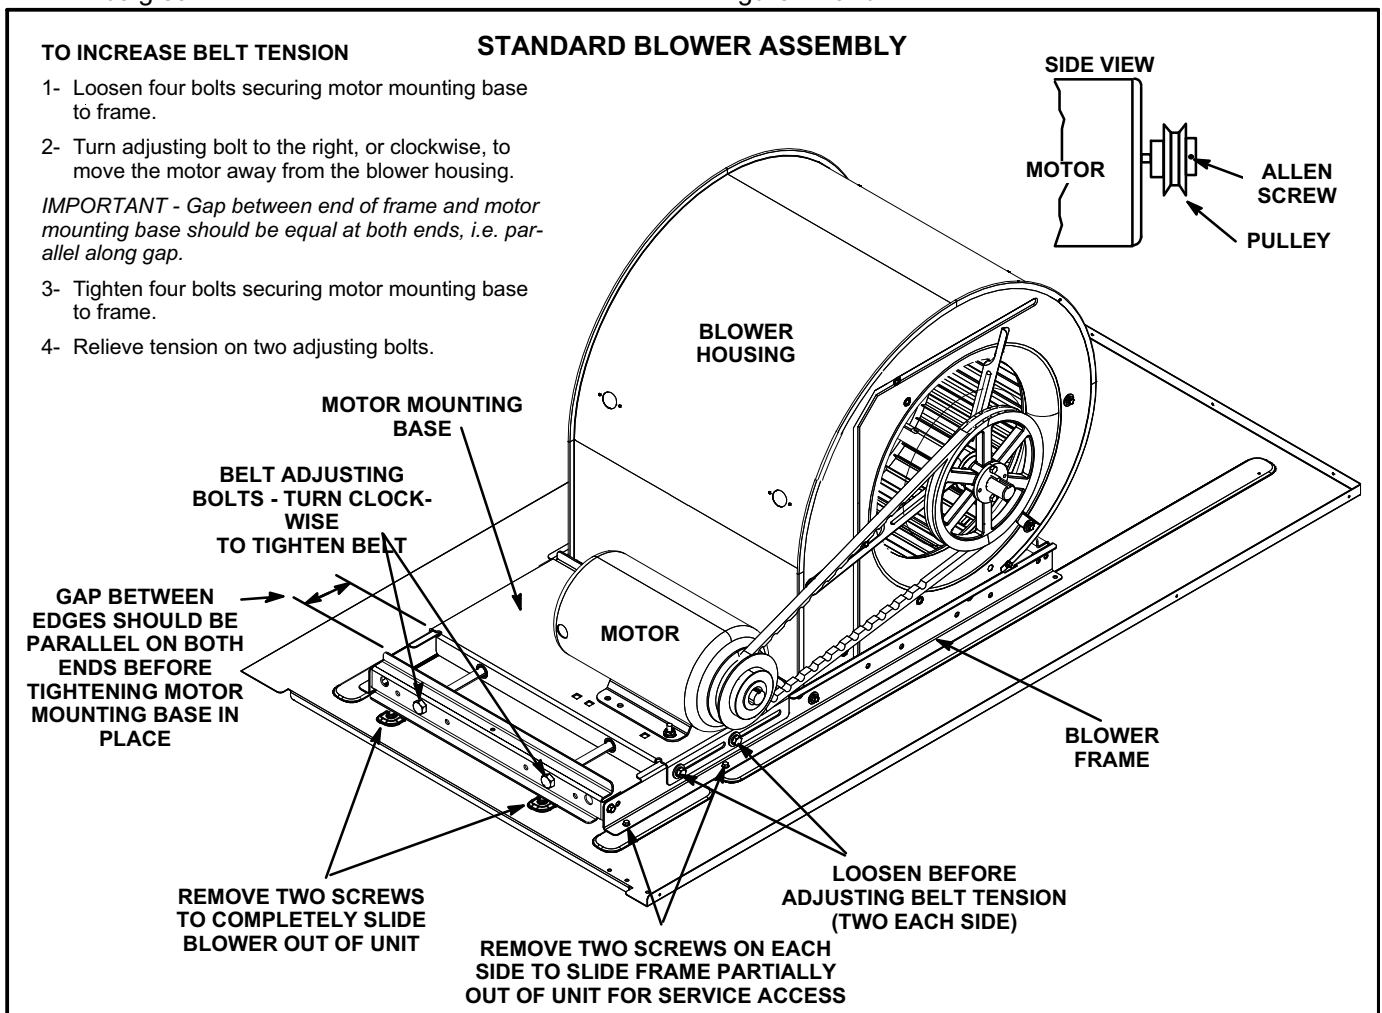

FIGURE 11
The blower assembly is secured to a sliding frame which allows the blower motor to be pulled out of the unit. See figure 11 and 12.
- 4- The blower RPM can be adjusted at the motor pulley. Loosen Allen screw and turn adjustable pulley clockwise to increase CFM. Turn counterclockwise to decrease CFM. See figure 11. Do not exceed minimum and maximum number of pulley turns as shown in table 2.
- 1- Loosen four bolts securing motor base to mounting frame. See figure 11.